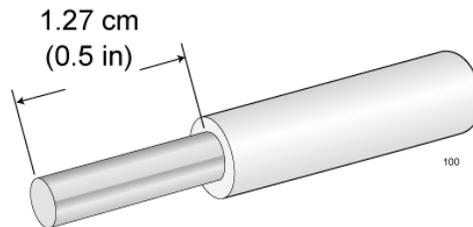

Figure 41. Stripping the Grounding Wire
1. Prepare an adequate length of stranded grounding wire (10 AWG) for the ground connection by stripping it as shown in Figure 41.